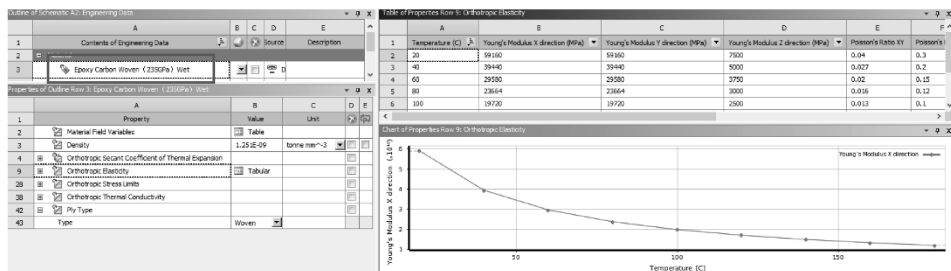

图 7-24 创建材料
(6) 在左侧单击【Strength】展开→双击【Orthotropic Stress Limits】→【Properties of Outline Row 4: Epoxy Carbon Woven (235GPa) Wet】→【Orthotropic Stress Limits】→【Tensile X direction】=510MPa,【Tensile Y direction】=510MPa,【Tensile Z direction】=50MPa;【Compressive X direction】=-437MPa,【Compressive Y direction】=-437MPa,【Compressive Z direction】=-150MPa;【Shear XY】=120MPa,【Shear YZ】=55MPa,【Shear XZ】=55MPa。
(7) 在左侧单击【Thermal】展开→双击【Orthotropic Thermal Conductivity】→【Properties of Outline Row 4: Epoxy Carbon Woven (235GPa) Wet】→【Orthotropic Thermal Conductivity】→【Thermal Conductivity X direction】=0.0003W/(mm·℃),【Thermal Conductivity Y direction】=0.0003W/(mm·℃),【Thermal Conductivity Z direction】=0.0002W/(mm·℃)。
(8) 在左侧单击【Physical Properties】→双击【Ply Type】→【Properties of Outline Row 4: Epoxy Carbon Woven (235GPa) Wet】→【Type】=Woven, 如图 7-24 所示。